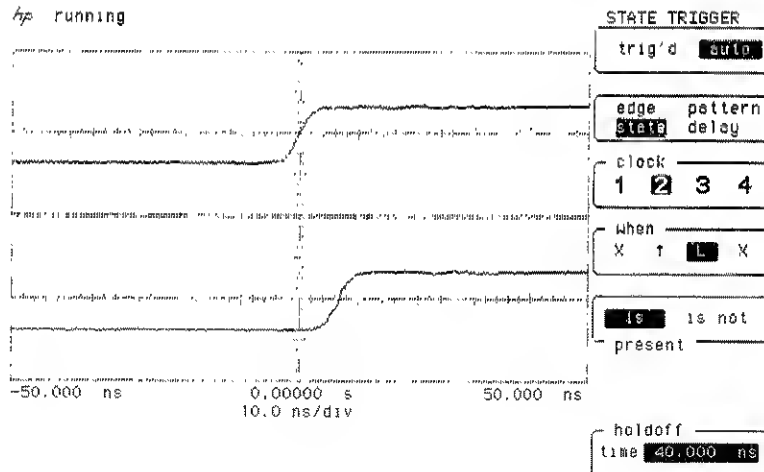

Figure 3-23. X↑LX State
- Press the **when** key until **is present** is selected (see figure 3-23).